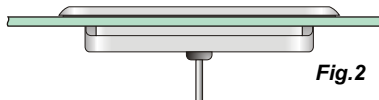

Fig.2
Step 2 - Remove the double sided adhesive from the back of the spaside. Make certain the spaside is straight and adhere to the spa shell. (Fig.2)